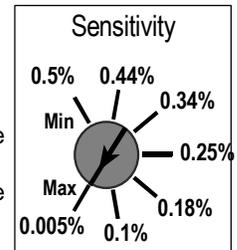

FIG. 2
- A potentiometer for adjustment of the linear sensitivity (Δf) for the loop A : from 0.005% to 0.5 % ; (see Fig. 2)
- A potentiometer for adjustment of the linear sensitivity (Δf) for the loop B : from 0.005% to 0.5 % . (see Fig. 2)